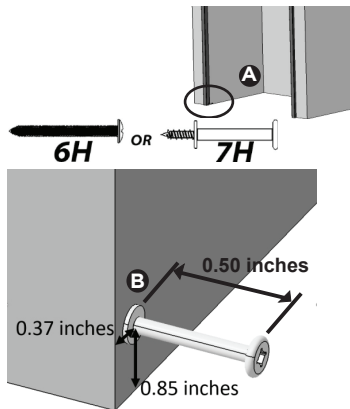
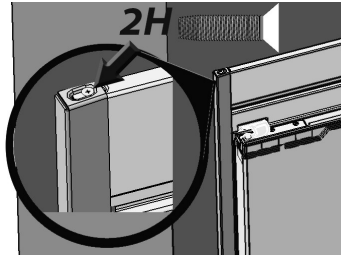

Fig. 9
Fig. 14
5. Using eight 3H screws and a power drill, attach the 2 Side Trim Attachment brackets to the front left and right cabinet cutout edges with the brackets touching the floor (Fig. 9). Ensure the rectangular slots extend over the cabinet edge.
10. a. Place the Side Trims in position by dropping them over the placement screw as seen in Fig. 9 and fitting them over the Top Trim (Fig. 14).
- b. Fasten a 2H screw to each side of the Top Trim (Fig. 14).